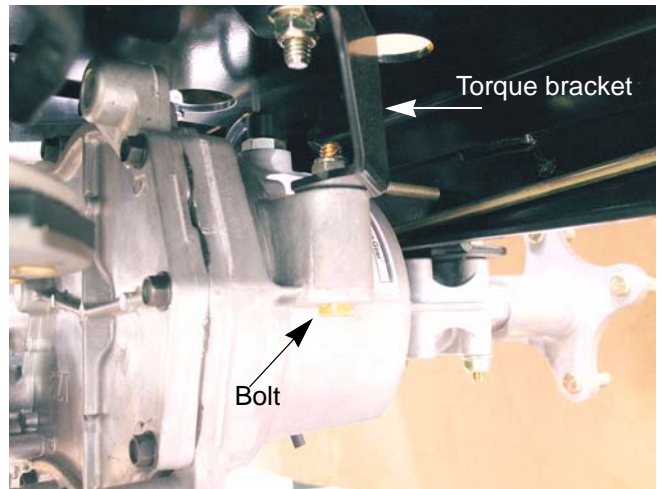

Figure 5.12
9. Remove the bolt holding the rear of the transmission to the torque bracket. See Figure 5.12.